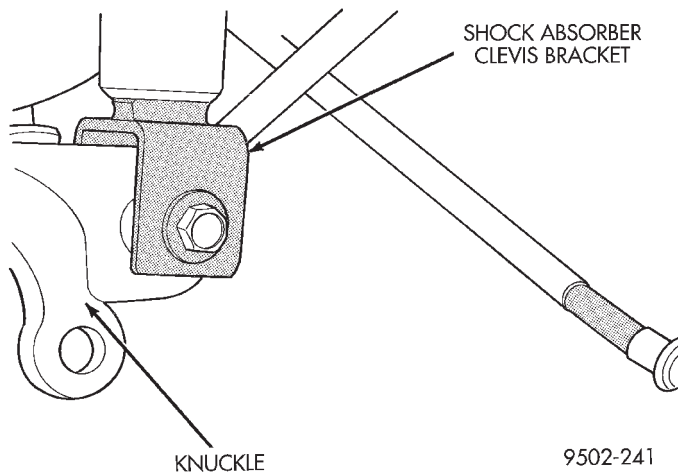

Fig. 18 Shock Absorber Attachment To Knuckle
(12) Remove the shock absorber clevis bracket to knuckle attaching nut and bolt (Fig. 18).
(1) Install knuckle on clevis bracket of rear shock absorber. Then install clevis bracket to shock absorber attaching bolt with head of bolt facing rear of vehicle (Fig. 18).